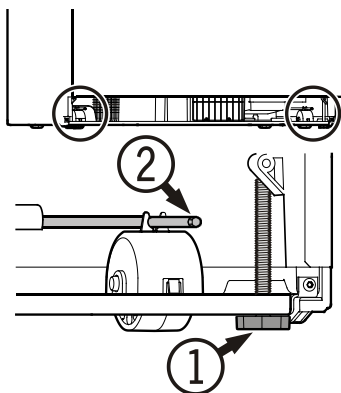

Figure 17
Leveling the Appliance - Figure 17
To prevent the appliance from tipping forward the leveling feet ① (Figure 17) must have contact with the floor.